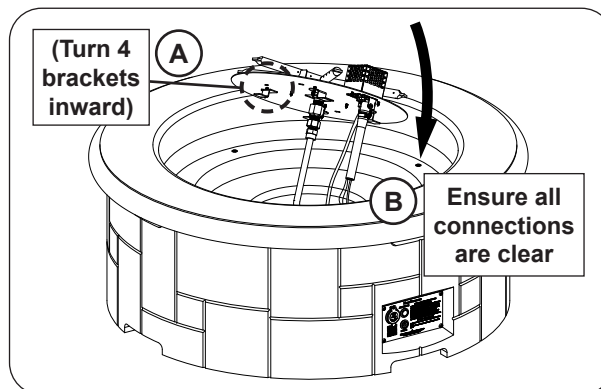

Fig. 36-2 Insert burner assembly
1. Ensure that the four burner brackets are turned inward, then insert the burner assembly (see Fig. 36-2, A-B).